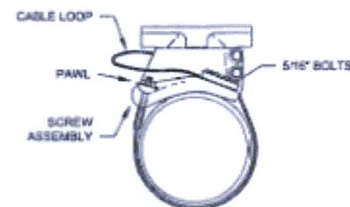

Figure 2
2. Place Cable Screw Assembly in casting pawl of the Female Clamp as shown in Figure 2. Loosen four (4) 5/16" Bolts on Cable Plate. Pull cable loop to tighten cable on the mast arm. To secure cable with cable plate, tighten four (4) 5/16" bolts to 15-18 ft. lbs. of torque. **DO NOT OVERTIGHTEN.**